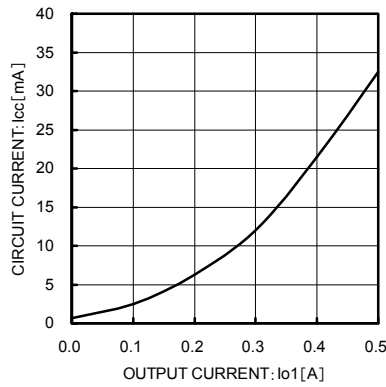

Fig. 14 Circuit Current vs Load Current lo1 (Io1 = 0 → 500 mA)
- Power consumption due to circuit current: $Pc3 = Vcc \times Icc = 5 \times 0.0085 = 0.0425 (W)$ (See Figs. 14 and 15)